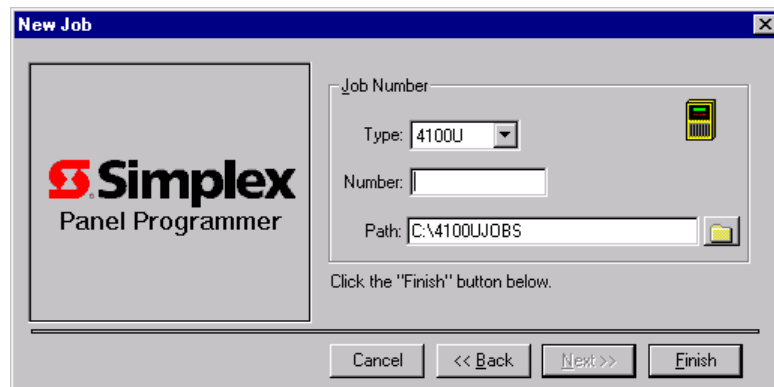

Figure 3-3. Create New Job Dialog
1. Select the button labeled **Create New Job from Scratch**, located on the first screen of the New Job Wizard and click on the **Next** button. A dialog similar to the one shown in Figure 3-3 appears.